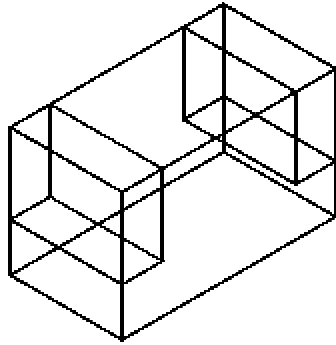

Figure 24-25 Figure showing boxes moved inside the bigger box using the midpoints
6. Move the new box inside the old box using the midpoints of both the boxes. Copy the new box to the other side of the box (Figure 24-25).